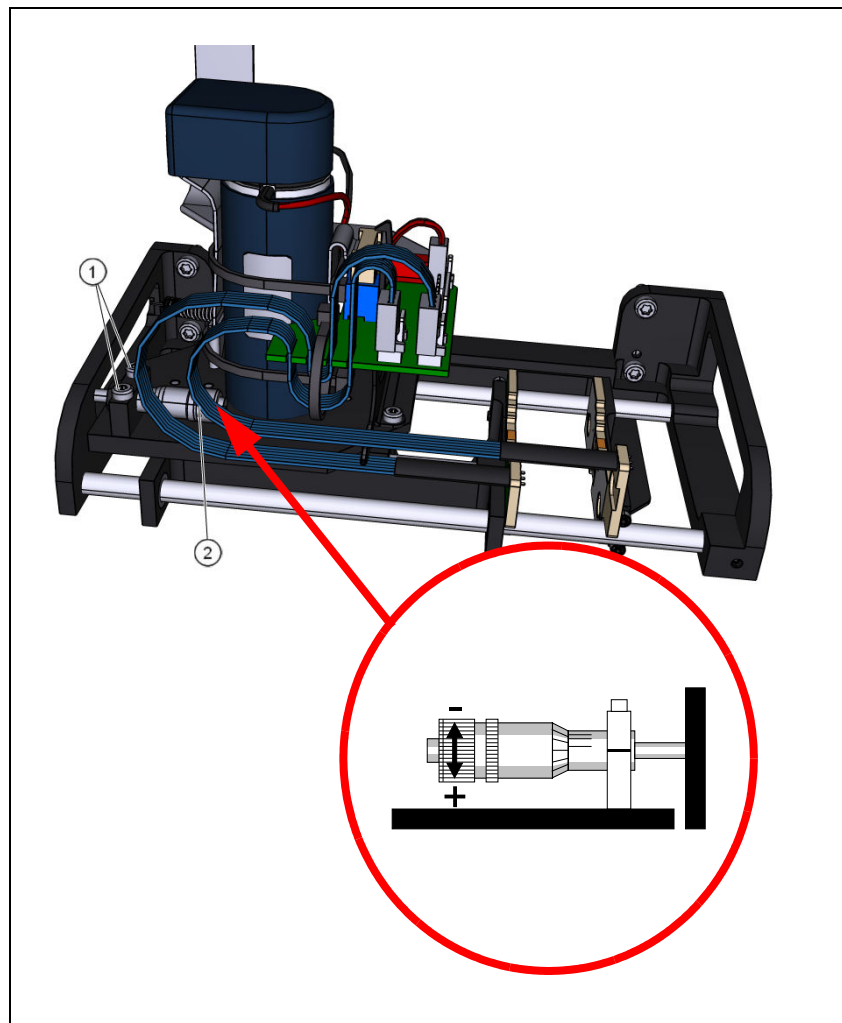

Figure 8-4. Adjusting the centering unit.
4. Loosen locking screws ('1' in Figure 8-4).